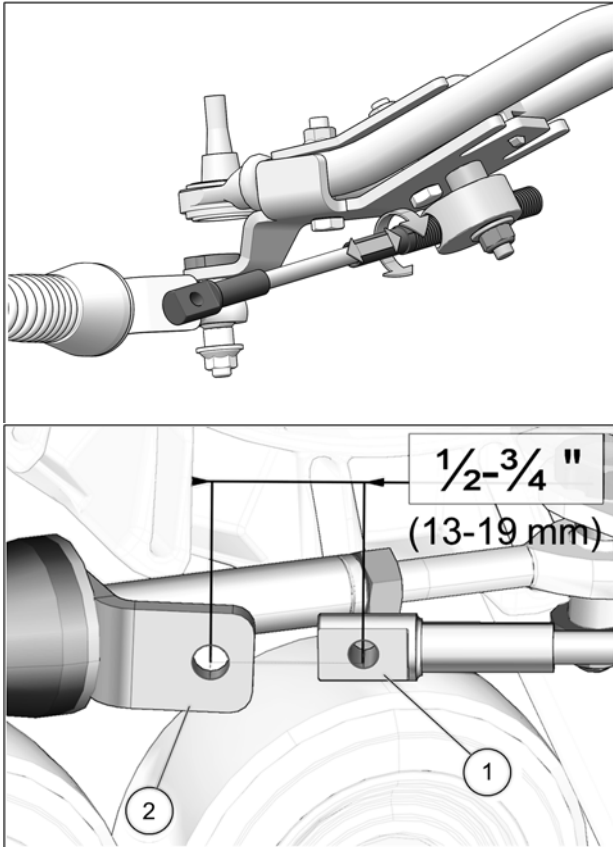

Fig. 21
13. Turn the vehicle's steering wheel to its maximum point of travel on the left. While maintaining pressure on the steering wheel, turn threaded rod to adjust length of cable so that the cable end hole (1) is located 13 to 19 mm [$\frac{1}{2}$ to $\frac{3}{4}$ in.] short of the mounting hole on the support plate (2). See Fig. 21